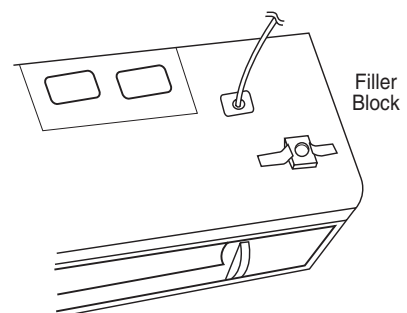

Figure 29
- Align filler blocks over the two openings in the top of the microwave oven cabinet and attach to the cabinet with masking tape. See Figure 29.